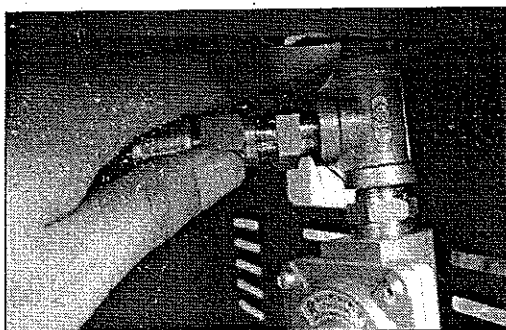

Fig 21
4. Attach one end of the supplied hose to the flare fitting on the side of the tee connector. (See Fig. 21)